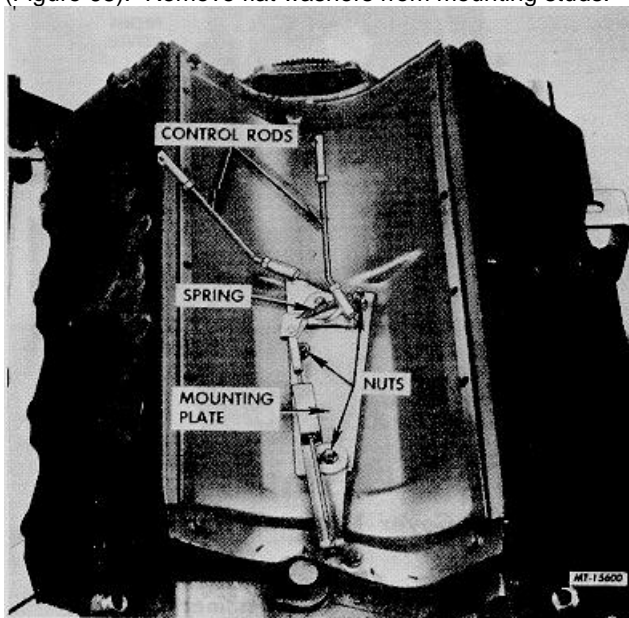

Fig. 68 Swirl Destroyer Linkage Removal (Early production engines only)
61. On engines equipped with swirl destroyer, remove spring, nuts and lockwashers and remove swirl destroyer control mounting plate and control rods as an assembly (Figure 68). Remove flat washers from mounting studs.